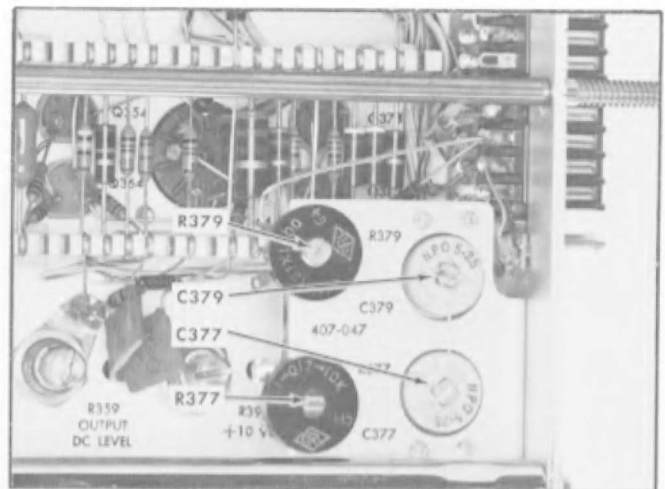

Fig. 7-15. Location of high-frequency compensations.
g. Adjust—R379, C379, R377 and C377 for the sharpest leading corner and a level top. See Fig. 7-14A and Fig. 7-15 for location.